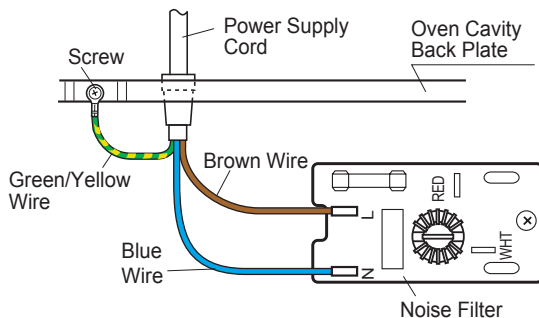

Figure C-4 (a) Replacement of Power Supply Cord
4. Release the moulding cord stopper of the power supply cord from the square hole of the oven cavity back plate, referring to the Figure C-4(b).